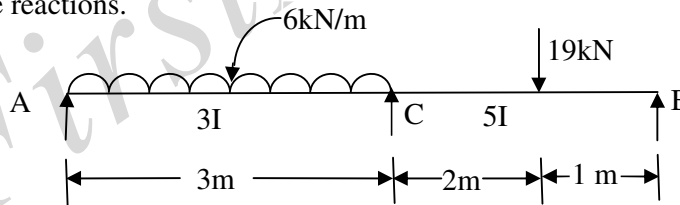

Figure-3
3. The moment of inertia of a continuous beam is different for different span as shown in Figure-3. Find the reactions.